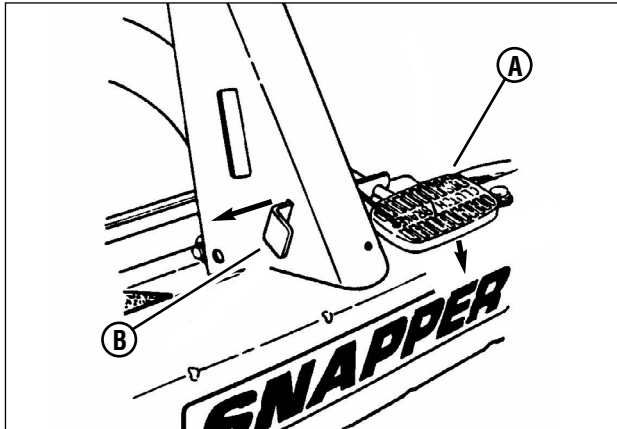

Figure 17: Releasing the park brake
2. Release the park brake by pressing down firmly on the clutch/brake pedal (A, Figure 17). The park brake latch (B) is spring-loaded, and will slide back to the disengaged position unassisted.